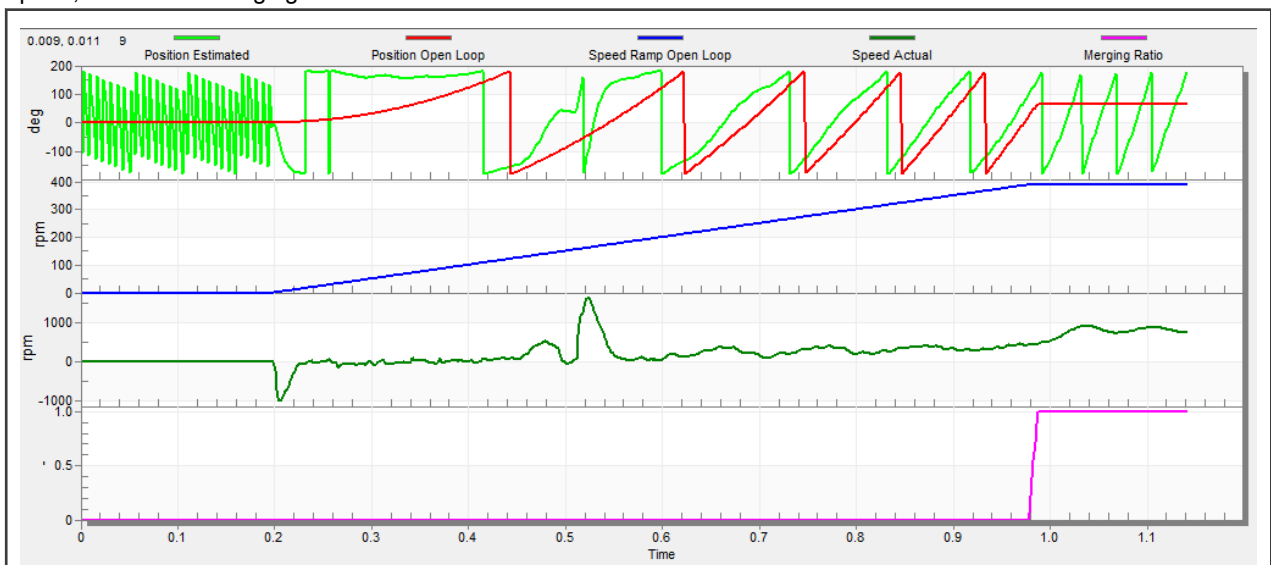

Figure 32. Motor startup
1. The start-up process can be tuned by a set of parameters located in the “Sensorless” tab. Two of them (ramp increment and current) are accessible in both tuning modes. The start-up tuning can be processed in all control modes besides the scalar control. Setting the optimal values results in a proper motor startup. An example start-up state of low-dynamic drives (fans, pumps) is shown in Figure 32.